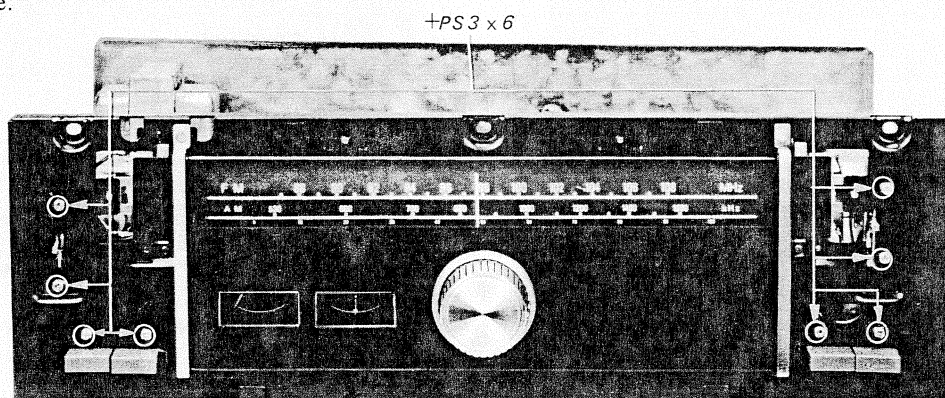

Fig. 2-6 Switch replacement
2. Remove the two screws (+PS 3 X 6) securing the switch to the front subchassis. See Fig. 2-6.
2. Remove the two screws (+PS 3 X 6) securing the switch mounting circuit board to the subchassis as shown in Fig. 2-6.